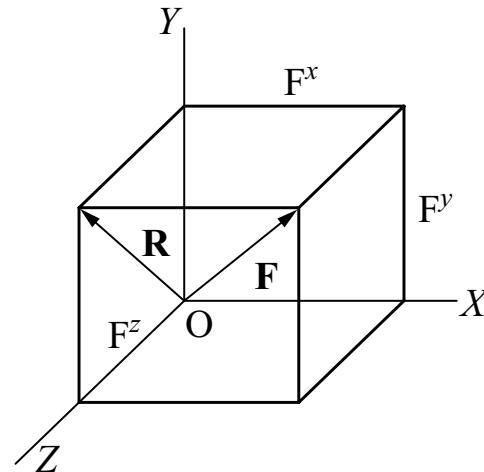

Fig. 2.13 Resultant in three-dimensional space.
- (ii) Adding F^x component to R vectorially the resultant force F is obtained (Fig. 2.13).